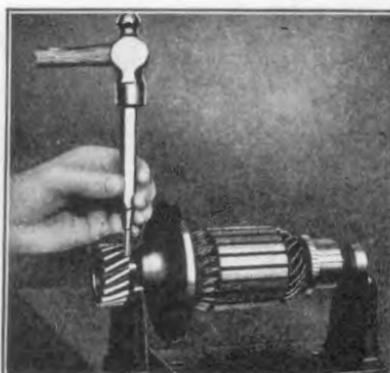

Fig. 453
- 908 Drive out pinion to shaft pin (See Fig. 453). To prevent damaging the ball bearing when driving out pin, it is necessary to place a lead block or bench plate underneath pinion.
- 940 Examine teeth of pinion for burrs and wear. If O. K., press pinion onto shaft on an arbor press, resting the small bearing end of shaft on a lead block (See Fig. 481). Press pinion down on shaft until pin hole in pinion lines up with the pin hole in shaft. Insert pinion to shaft pin through pinion and generator shaft. The ends of the pin are then riveted (See Fig. 453).